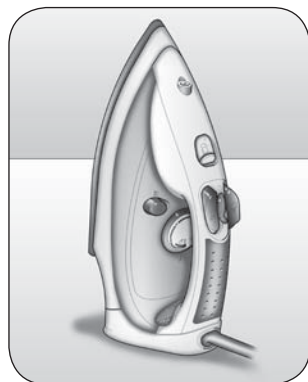

Fig. 4
- 1 Rest the iron upright on the iron stand (G) (Fig. 4).
- 6 Store the iron in vertical position (Fig. 4).